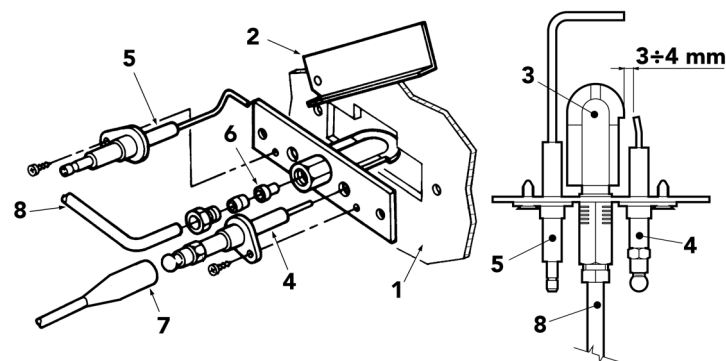

fig. 9 - Pilot burner
- The electrodes must be free of deposits and properly positioned (see fig. 9).
After several lighting attempts, the electronic controller shuts down the boiler.	Clean the pilot burner nozzles with compressed air. Check the regular gas flow to the boiler and that the air has been eliminated from the pipes. Make sure the electrodes are correctly positioned and free of deposits (see fig. 9). Make sure the boiler is connected to an efficient earth connection. Check the connections at the ignition and ionisation electrodes.
The electrodes are not discharging in the ignition phase.	Make sure the electrodes are correctly positioned and free of deposits (see fig. 9). Control thermostat adjusted too low. Check the power supply. Check the connections at the ignition and ionisation electrodes. Check the connections at the electronic flame controller. Make sure LINE-NEUTRAL are not inverted and that the earth contacts are efficient. Check the inlet gas pressure and any open pressure switches. Reset the safety thermostat. Reset the fume thermostat. Make sure the room thermostat is closed.